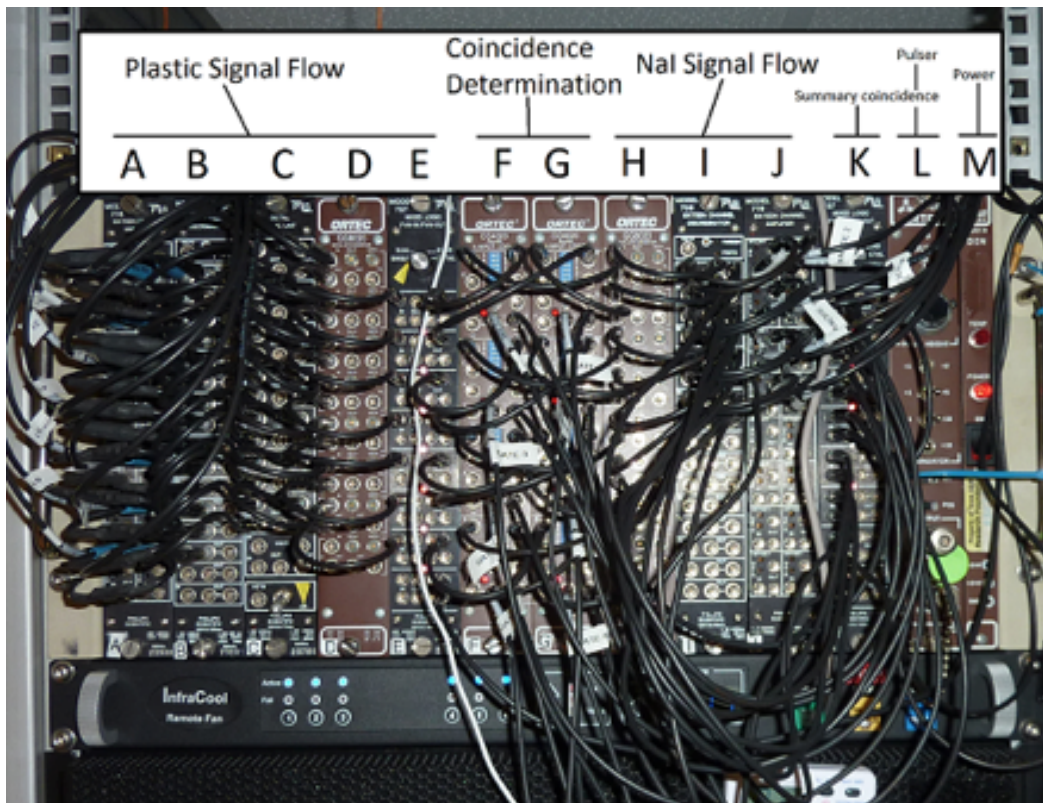
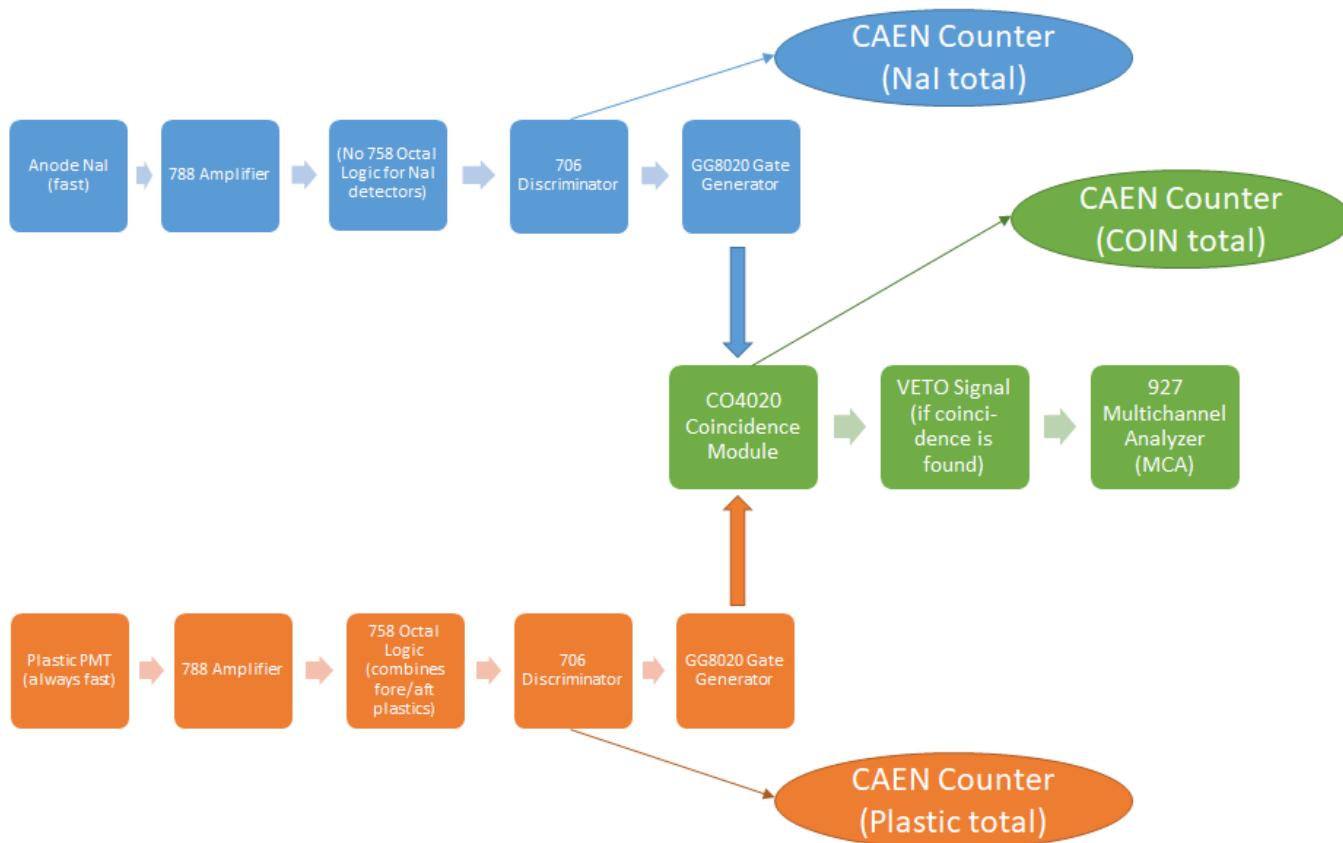

Figure 40. Coincidence Logic NIM Bin
Figure 41. Coincidence Logic Flow Diagram (simplified)
The coincidence logic NIM bin (left side) consists of the plastic signal flow units (Figure 40, A through E), coincidence determination units (F and G), NaI signal flow units (H through J), a summary coincidence unit (K), and an ORTEC 480 pulser. A cartoon diagram of the electronics logic is shown below in Figure 41, and for a detailed description of the electronics bin, please see the NGR logger academy Power Point presentation.